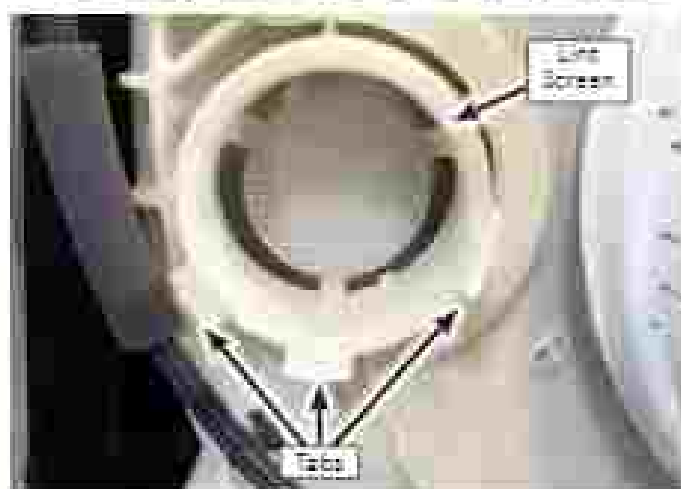

Figure 3
11. Remove the lint screen (see Figure 3). NOTE: Be sure the three tabs point downward when reinstalling lint screen.